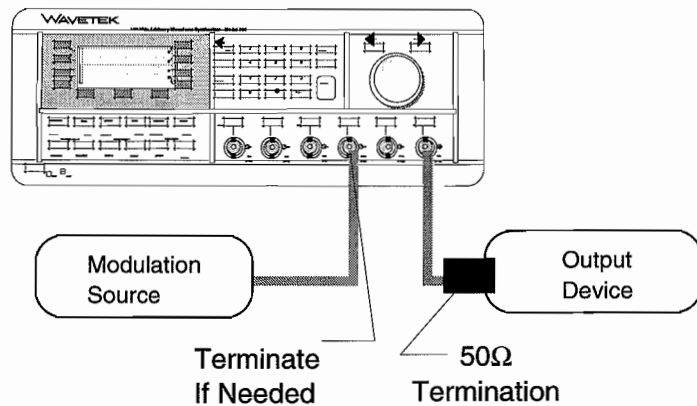

Figure 4-10. AM/SCM Setup
Press the AM IN key and select (F3) "AM (2.5Vpp=100%)." Connect the modulating source to the AM IN connector (figure 4-10).
- Press the AM IN key and select (F4) "SCM (5Vpp=200%)." Connect the modulating source to the AM IN connector (figure 4-10).